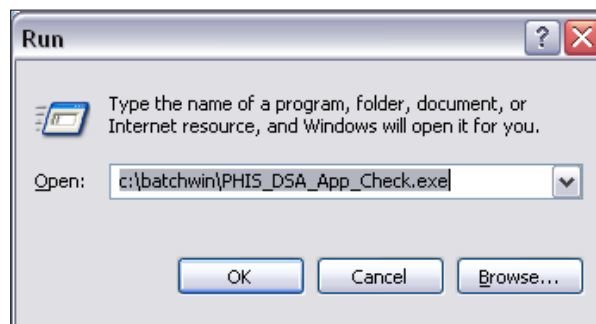

Figure 16: PHIS_DSA_App_Check.exe File
2. In the Open field, type `c:\batchwin\phis_dsa_app_check.exe` (see Figure 16).